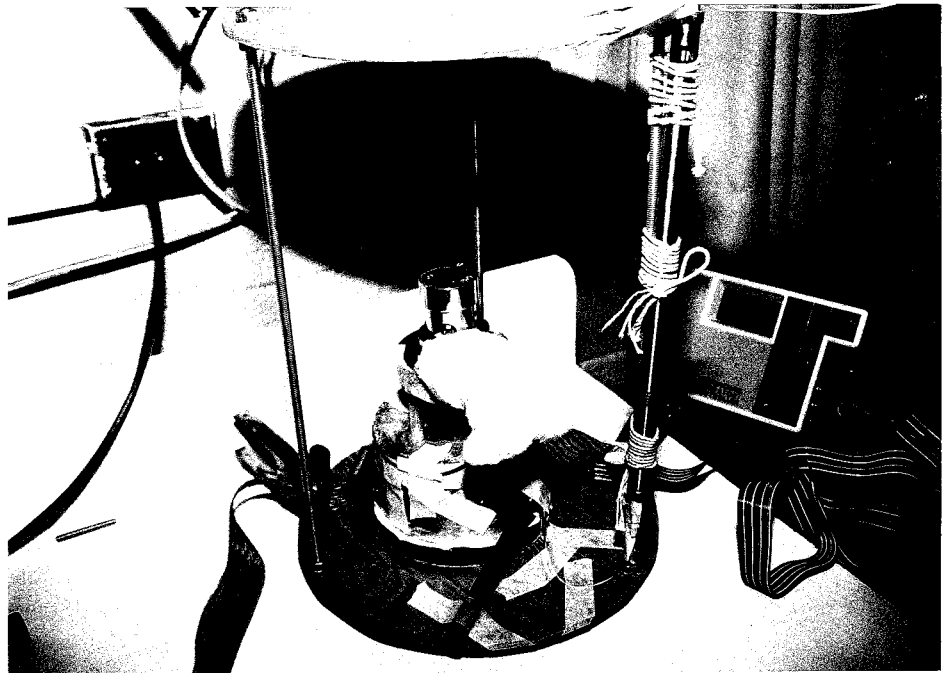

FIGURE 4
- Figure 4:** MMR refrigerator covered with cotton to isolate it from vibration in the surroundings.